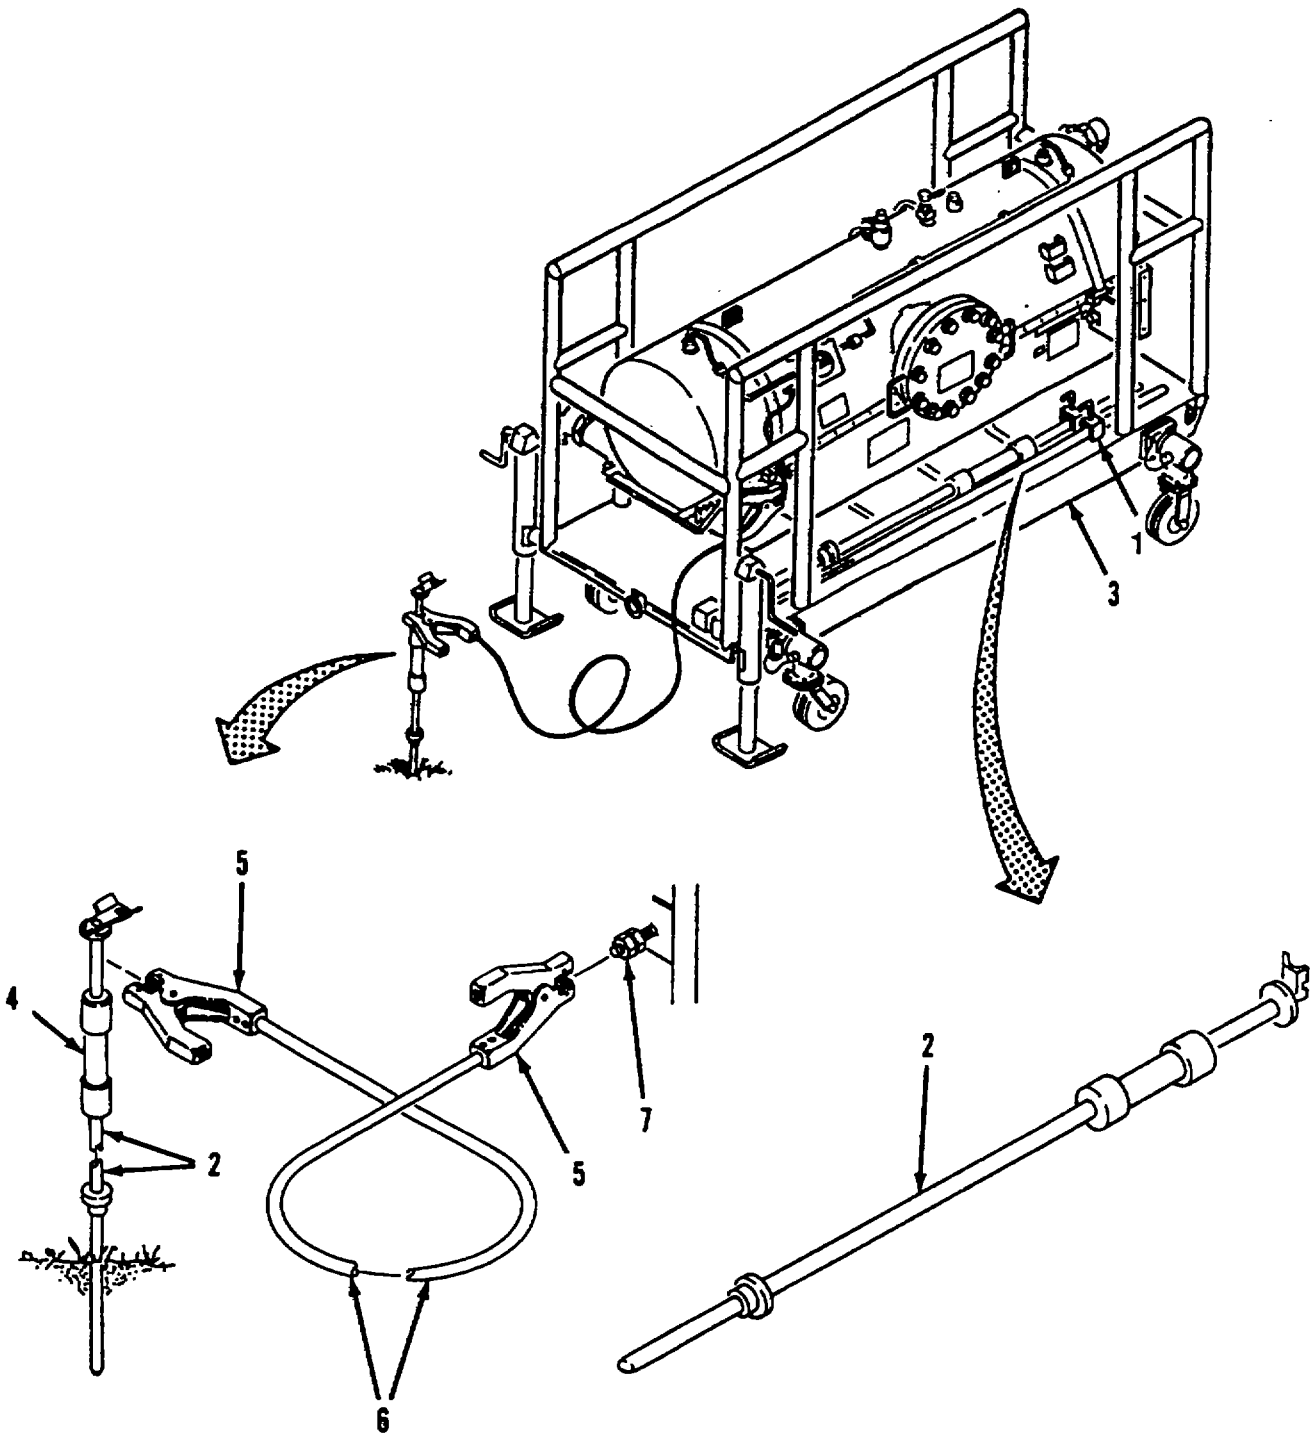

Figure 2-10. Grounding Installation.
d. Grounding Installation (Refer to Figure 2-10).